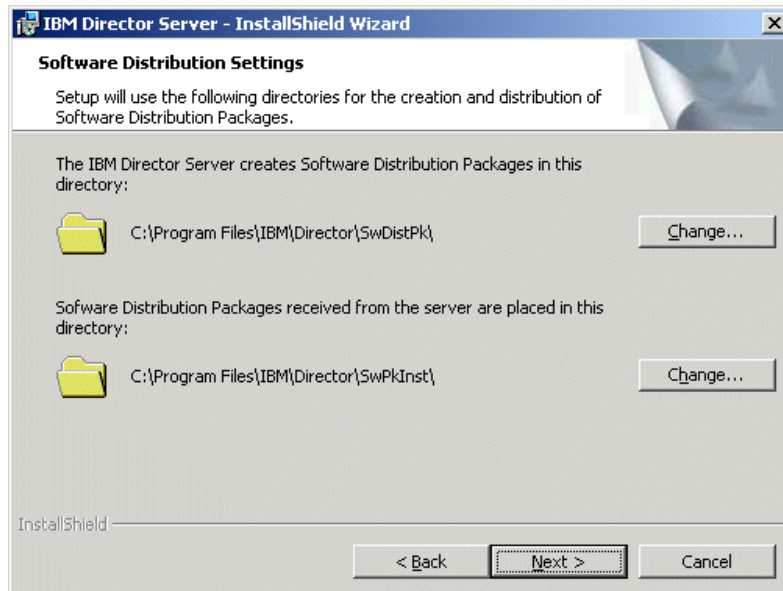

Figure 4-7 Software Distribution Settings window
9. Select the encryption setting and click **Next**. You will see a window similar to Figure 4-7. In our example, we accepted the default.